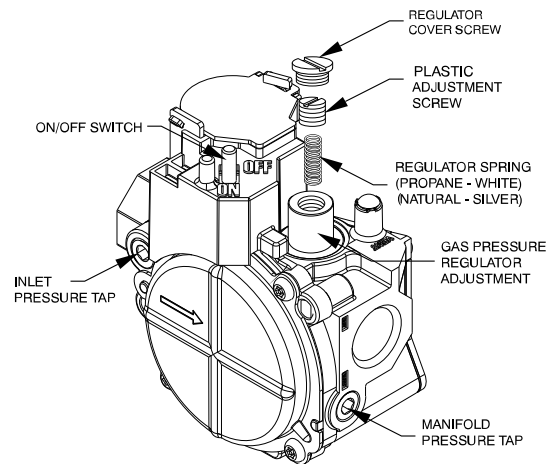
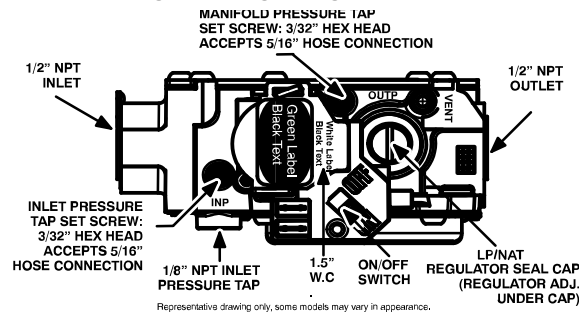

Fig. 27 – Single-Stage Gas Valve
Fig. 28 – Single-Stage Gas Valve with Tower Pressure Ports
- b. For gas valve with tower pressure ports (Standard, Low NOx and Ultra Low NOx models), loosen set screw on manifold tower pressure tap no more than one full turn counter-clockwise with a 3/32-in. hex wrench. (see Fig. 28.) Connect manometer by sliding 5/16-in connecting hose over the manifold tower pressure port. Turn on gas supply to unit.
1. Remove regulator cover screw over plastic adjustment screw on gas valve (See Fig. 27 and Fig. 28).
2. Turn plastic adjustment screw clockwise to increase gas input, or turn plastic adjustment screw counterclockwise to decrease input (See Fig. 27 and Fig. 28). Manifold pressure must be between 3.2 and 3.8 IN. WC.
3. Replace regulator cover screw on gas valve (See Fig. 27 and Fig. 28).
- b. For gas valve with tower pressure port (Standard, Low NOx and Ultra Low NOx models), remove connecting hose. Tighten set screw clockwise on manifold pressure port using a 3/32-in hex wrench. (See Fig. 28.)